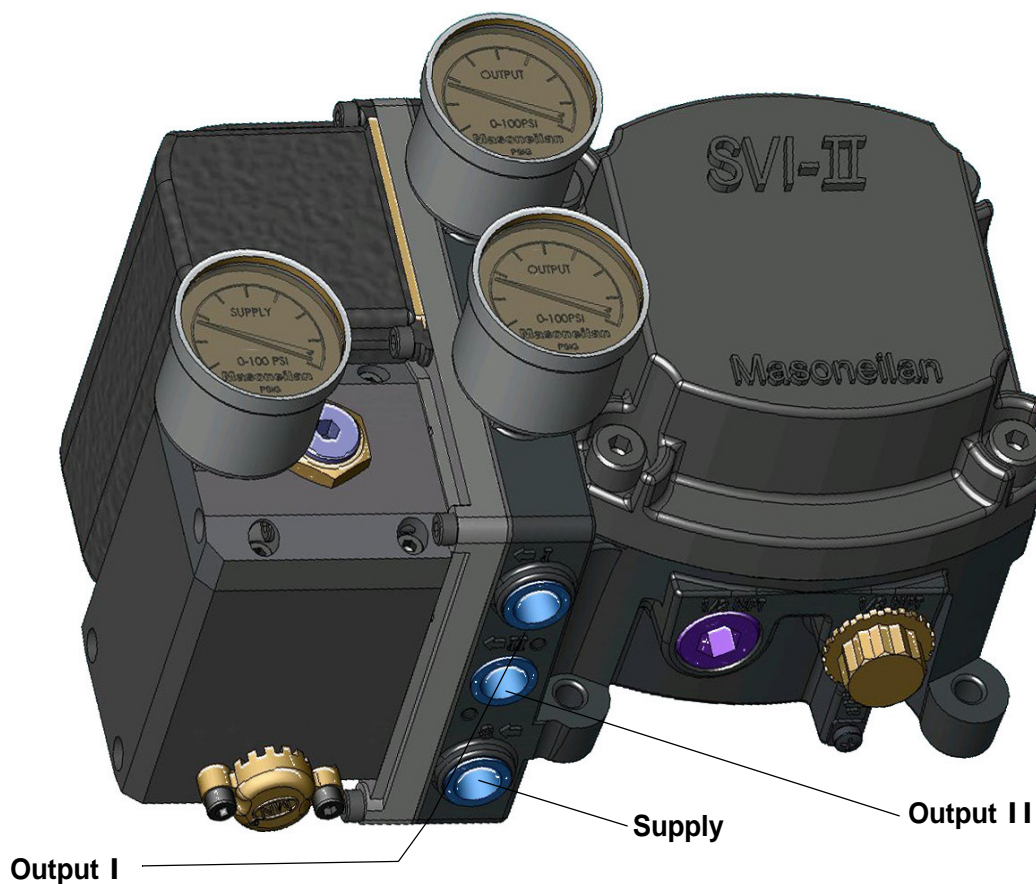

Figure 22 Air Ports on Double Acting Positioner
1. Connect Output 1, labeled ($\leftarrow I$) to the inlet port of the actuator and Output 2 labeled ($\leftarrow II$) to the opposing actuator port (see Figure 22).